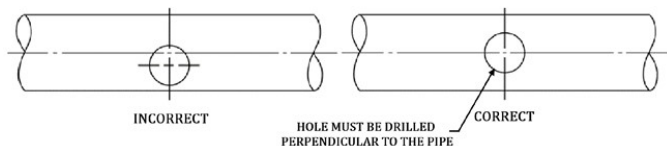

Fig.2: Drilling The Mounting Hole
- 2- Drill a hole on the pipe by proper measures on table.2, using a hole saw in a slow speed drill. The hole must be centered as shown in Fig.2 otherwise vane will bind against the inside wall of the pipe.